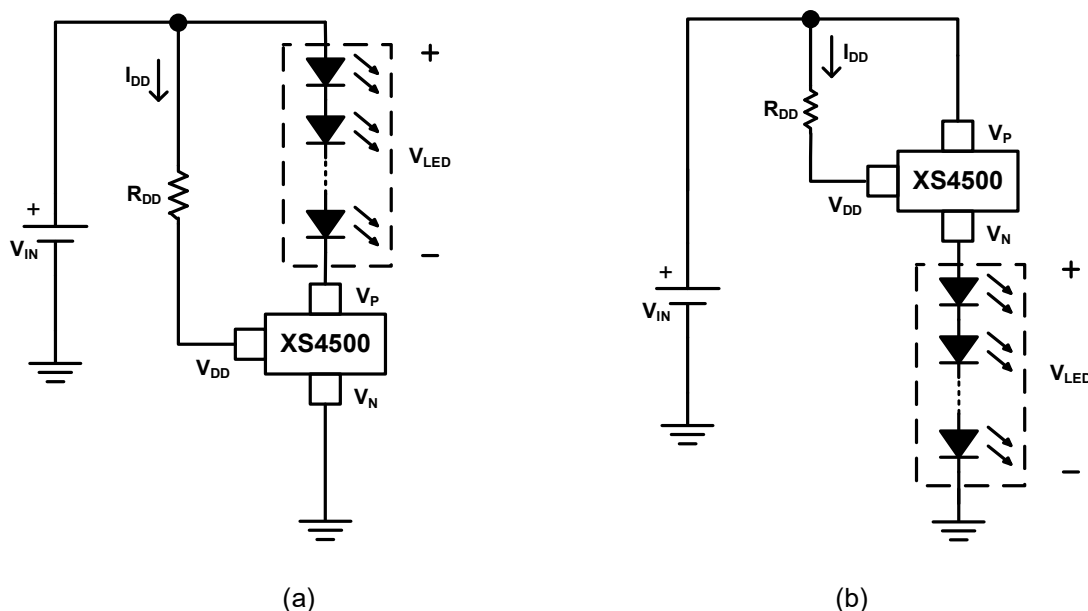

Figure 9. (a) Low-side LED Driver (b) High-side LED Driver
XS4500 can be placed for high-side or low-side driver for LED as shown in figure 9. The number of the LEDs is limited by the voltage across the V_{PN} of XS4500. Hence, the designed must estimate the maximum and minimum voltage across the V_{PN} by taking the maximum input voltage less the voltage across the LED string.
As XS4500 used for low-side LED driver referred to figure 9 (a), the minimum input voltage $V_{IN(min)}$ has to be larger than $V_{LED} + V_{PN}$ or $I_{DD} \cdot R_{DD} + 4.5V$ which depends on the LED string voltage. The equation is as follows:
For high-side LED driver referred to figure 9 (b), the minimum input voltage $V_{IN(min)}$ is as follows $V_{IN(min)} = I_{DD} \cdot R_{DD} + 4.5 + V_{LED} \dots\dots\dots (3)$